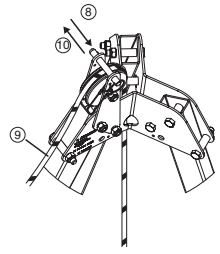

Fig. 10
8. Remove the ball screw located above the return pulley at the top of the tracpode tripod (Fig. 10, 8).
9. Pass the Derope™ halyard around the return pulley (Fig. 10, 9).
10. Replace the ball screw in order to prevent the halyard from escaping the return pulley (Fig. 10, 10).